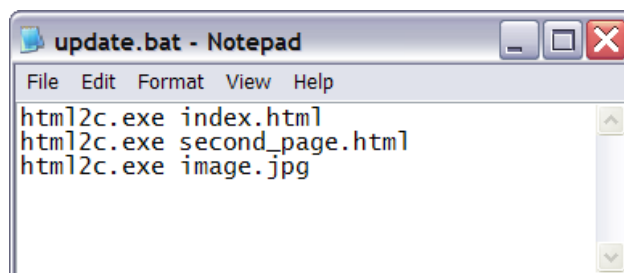

Figure 24. Automating the Conversion Using a Batch File
- **Batch File.** The *update.bat* batch file in the VFILE_DIR folder can be used to automate the conversion process. If additional content is added to the server, the batch file can be updated as shown in Figure 24.